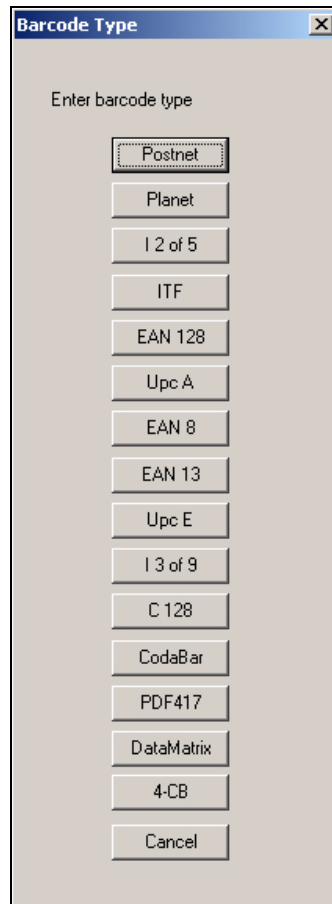

Figure 4-18: Barcode Type Selection
- 4 When the *Barcode Type* opens, select the type of barcode you must create (see Figure 4-18 on page 4-17).